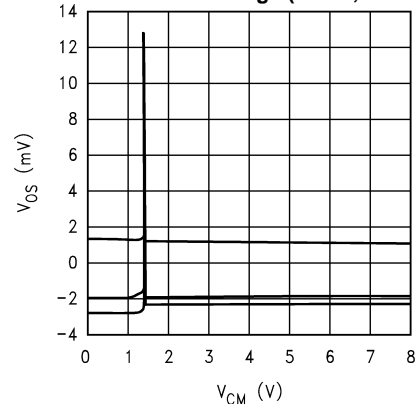

Figure 22.
- (1) All limits specified at room temperature (standard typeface) and at temperature extremes (bold typeface). All room temperature limits are 100% production tested or specified through statistical analysis. All limits at temperature extremes are specified via correlation using standard Statistical Quality Control (SQC) methods. All limits are used to calculate Average Outgoing Quality Level (AOQL).
- (2) Typical numbers are at 25°C and represent the most likely norm.
- (3) Refer to the graphs titled "Input Offset Voltage vs. Common Mode Voltage" Figure 22 through Figure 25.
- (4) Bias current flows into pin.